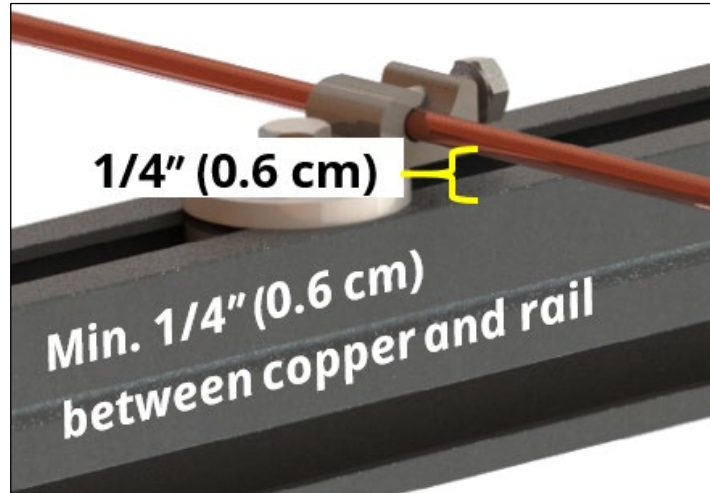

Fig. 16
**Important!** Ensure that you install the system such that the copper ground wire will never contact any aluminum! (Refer to Fig. 16.)
**Warning!** The ground wire must never be any closer to any other metal than 1/4" (0.6 cm) (Fig. 16).